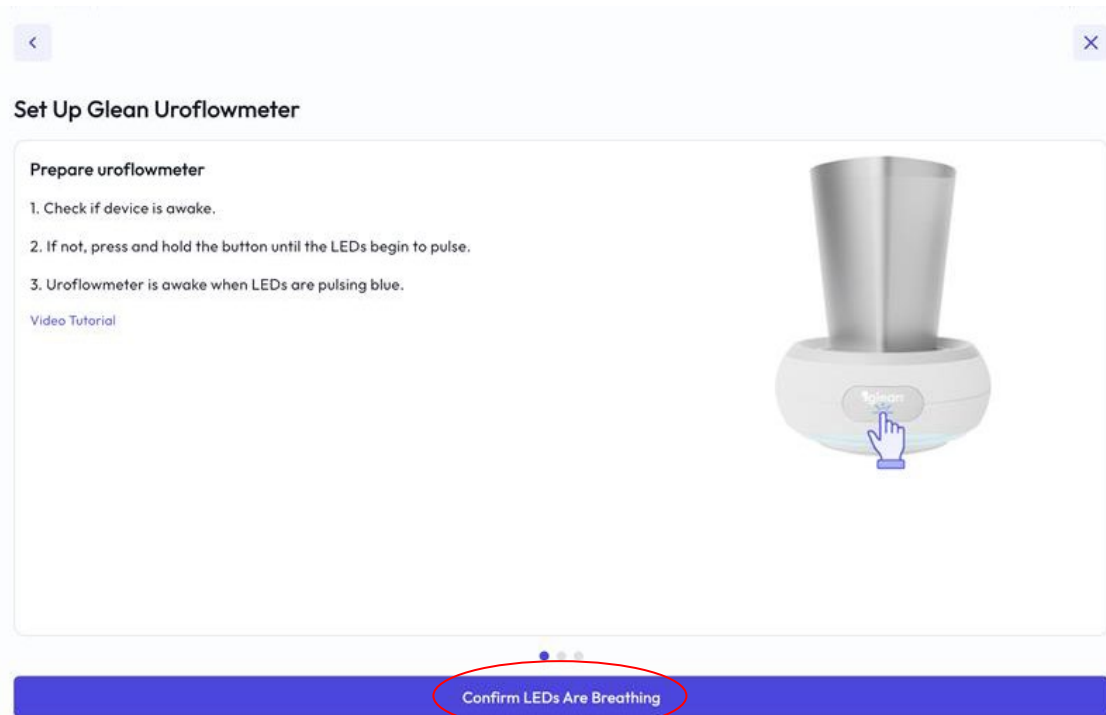

Figure 48. Set the Uroflowmeter to Awake state
3. Gently position a urine collection cup on top of the Uroflowmeter. Ensure the urine collection cup is placed as indicated in Figure 48.